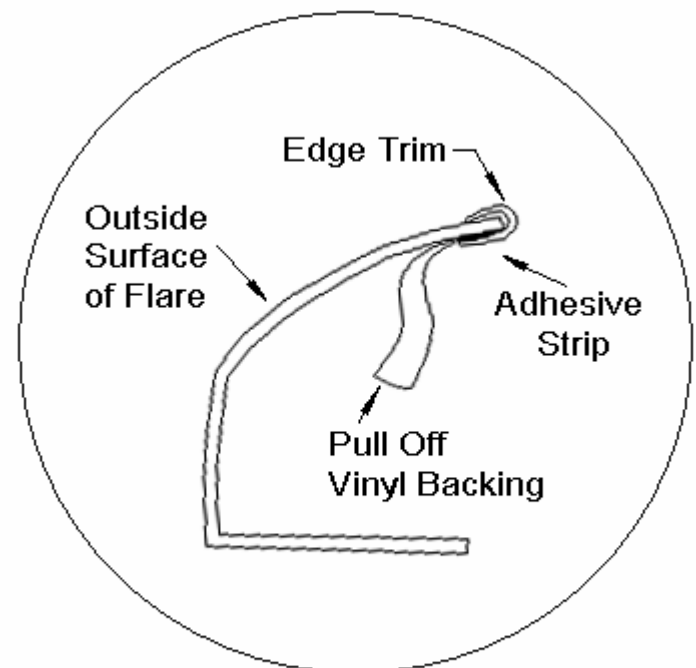
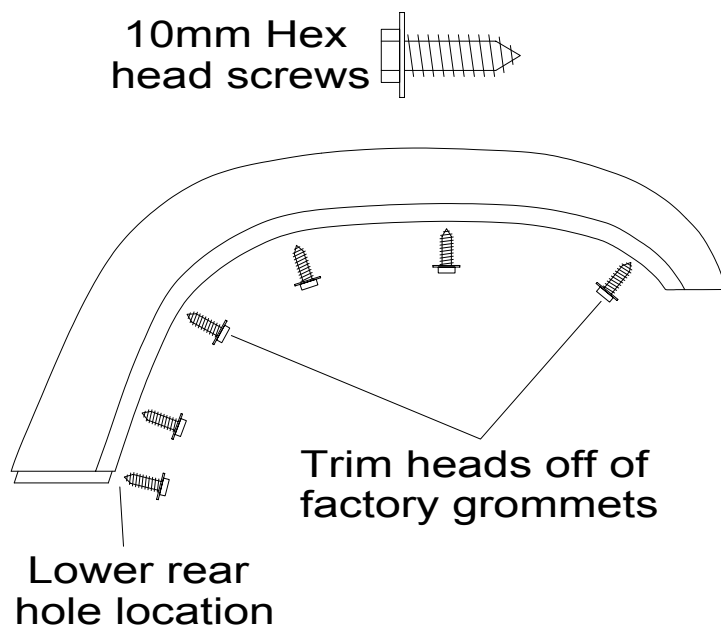
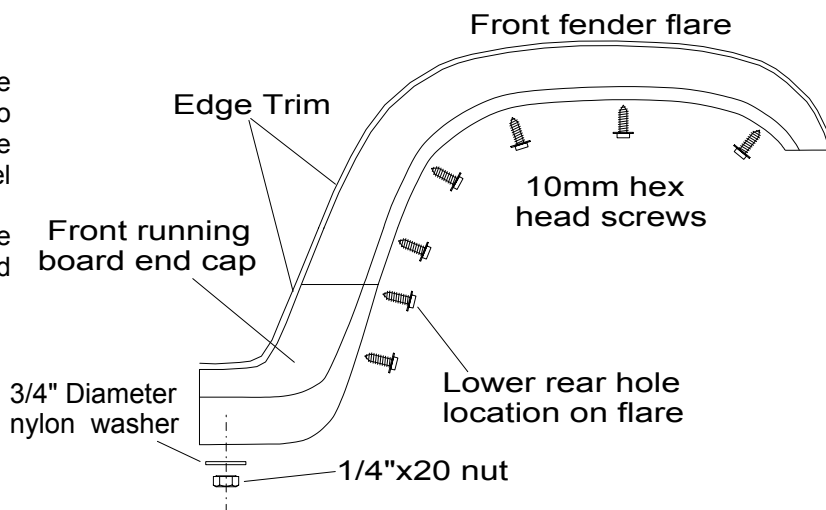
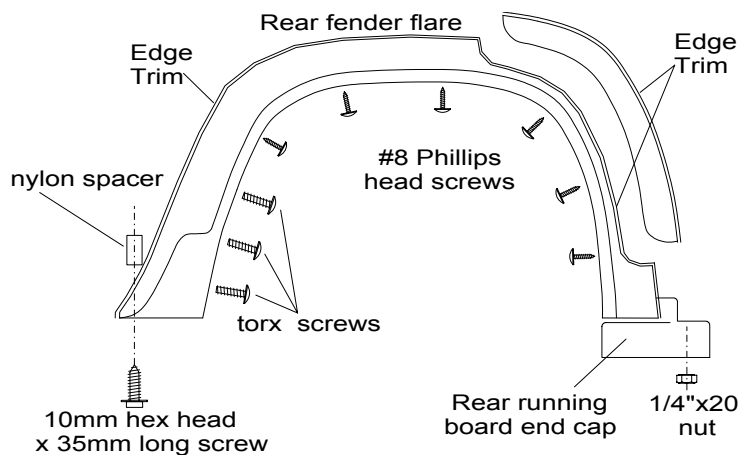

FIGURE 1
FIGURE 2
FIGURE 3
FIGURE 4
(See FIGURE 1, FIGURE 3, and FIGURE 4.)
- (A) If installed, remove factory wheel well trim, mud flaps, and running board end caps using a 10mm socket, a 13mm socket and a Phillips screw driver. Save any factory hardware for later use.
- (B) To remove the front factory wheel well trim, two of the plastic grommets must be cut with a utility knife. Replace these grommets with the ones in the supplied hardware kit. **(See FIGURE 2).**
- (C) If the vehicle does not have a factory running board attached, install Toyota running board (part numbers: black PT228-35994-01, chrome PT228-35994-13). Do not install the factory running board end caps.
- (D) If the vehicle does have a factory running board installed, some adjustments to the running board position may be necessary to properly install the flares.
- (A) Holding the flare in position, apply moderate pressure to the outside surface of the flare and fasten the flare to the plastic grommets in the vehicle fender with the kit-supplied 10mm hex head screws. Do not fasten at the lower rear hole location.
- (A) Front running board end cap.
1. Place edge trim on front boot along edge toward vehicle. **(See FIGURE 3).**
4. Install one kit supplied 3/4" diameter nylon washer and one 1/4"x20 nut onto each of the two threaded studs under the running board and tighten with an 11mm socket. **(See FIGURE 3).**
- (B) Rear running board end cap.